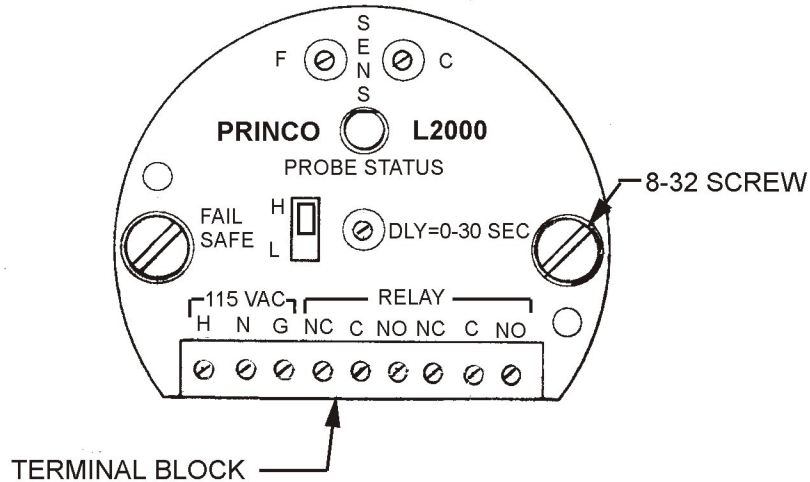
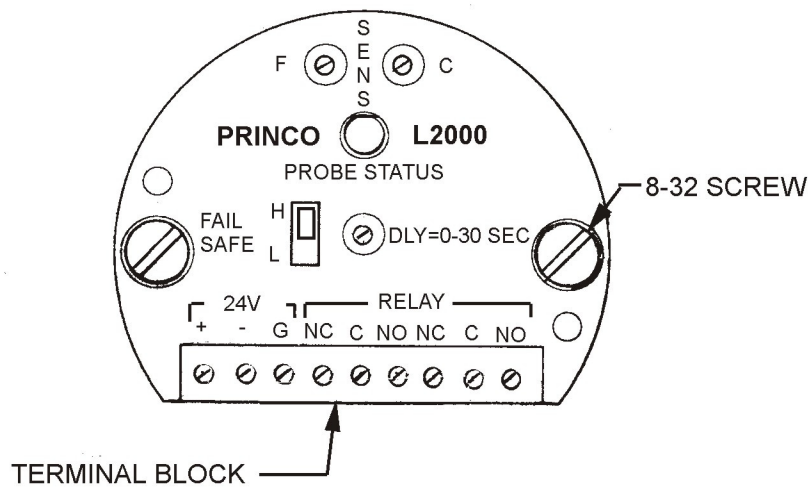

Figure 3-3
Figure 3-4
The ground return rod must be electrically connected to the L2000 housing or to the ground position of the terminal block with 18 AWG or heavier wire. See Figure 3-3 & 3-4. See Figure 3-5 for ground continuity testing.
Connect the 115 Vac or 230 Vac power line wires: Hot (H), Neutral (N), and Ground (G) respectively, to the terminal block as shown in Figure 3-3. If the unit requires 24 Vdc for power, the terminal block is labeled as plus (+), minus (-) and ground (G). Connect 24 Vdc power accordingly (See Figure 3-4).
Connect the normally open (NO), normally closed (NC) and common (C), relay wires to the terminal block as shown in Figure 3-3, and Figure 3-4, and as required by the specific circuit application.
The relay contact configuration, as shown on the terminal block labeling and in Figures 3-3 and 3-4, is identified as such with the relay in the de-energized (shelf) state. Fail safe operation requires relay to be normally in the energized (non-shelf) state. Upon alarm, configured as either HIGH or LOW, the relay then becomes de-energized (shelf state).